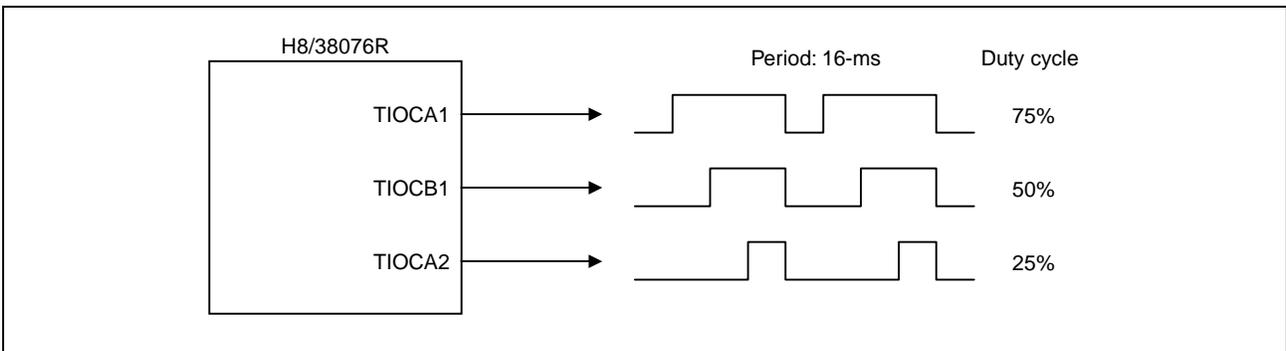

Figure 1 Example of 3-Phase PWM Output Using PWM Mode 2 Function
- An example of 3-phase PWM output by means of the PWM mode 2 function is shown in figure 1.